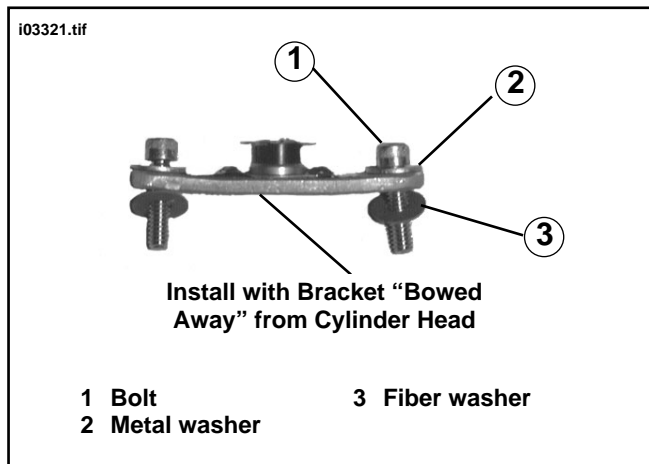

Figure 6. Thermostat Hardware
11. See Figure 6. Orient thermostat bracket so bracket is "bowed away" from cylinder head and align holes in thermostat bracket with holes in cylinder head cover. Install new longer bolts (part number AA0408.2CZ) using new fiber washers (part number 63858-49) and flat metal washers (part number BA0409.1Z) from kit. Tighten bolts to 10.0-13.0 ft-lbs (13.6-17.6 Nm).